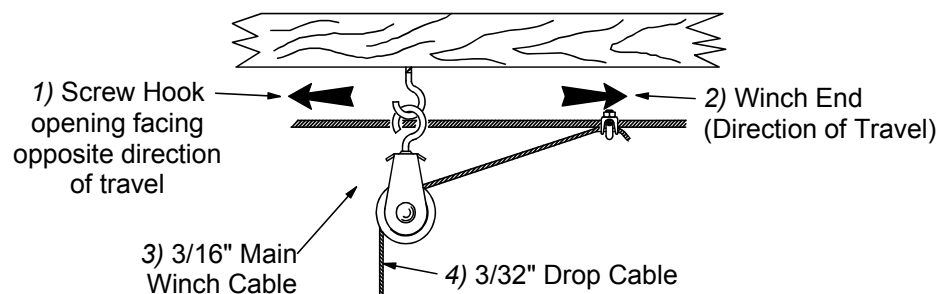
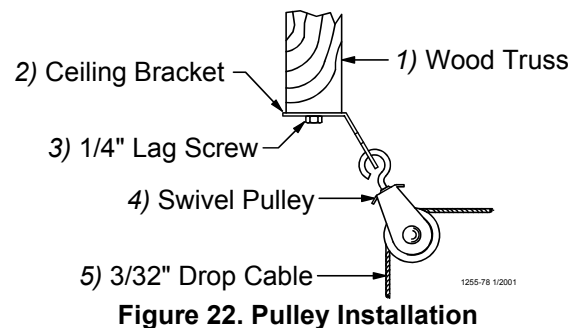

Figure 18. Screw Hook Installation
Figure 22. Pulley Installation
The openings of the screw hooks must be pointed away from the direction of travel when the Power Winch raises the feeder line. See **Figure 18**.
6. After securing the Ceiling Hook to the truss, slide the hook of a Swivel Pulley into the slot, as shown in **Figure 22**.
2. Thread the end of the 3/32" or 1/8" cable through the pulley toward the winch. Clamp this end to the 3/16" winch cable about 6" [150 mm] from the last pulley, using a 3/16" cable clamp. See applicable figure; **Figure 18.** or **Figure 22.**